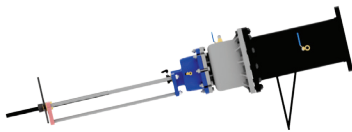

Figure 73
5.1.4 Tip and lay the insertion housing and Hydra-Tapper / P20 assembly on its stand (see Figure 73).